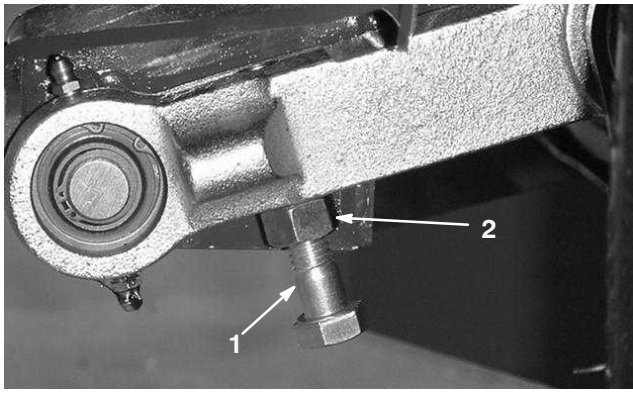

Figure 21
3. To adjust distance, locate adjuster bolt on rear pivot link of cutting unit (Fig. 21). Loosen jam nut on adjuster bolt. Loosen or tighten adjuster bolts until 0.50 ± 0.12 in. (13 ± 3 mm) clearance is attained, then tighten jam nut.